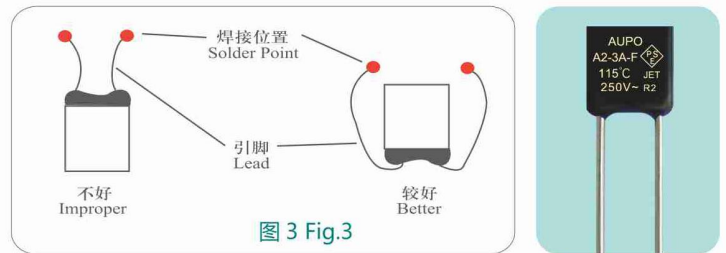

图3 Fig.3
- 尽可能利用长一些的引脚, 长一些的引脚允许较长的焊接时间及减少过热的可能性。(见图 3) 为如何在较小的位置保留长一些的引脚的例子。在引脚较短的情况下, 在焊接时要用尖嘴钳或其它工具夹在引脚上焊点和保险丝体之间位置上以散热, 避免焊接热传入温度保险丝内部。同时焊接温度应控制不要过高, 焊接时间尽可能短。
- Using the lead wires as long as possible when soldering, longer leads permit a longer soldering time and reduce the possibility of overheating.Fig.3 is an example of how to keep a longer lead wires when a thermal cutoff is installed in a small space.It is recommend that using a heat sink between the soldering point and sealant to minimized the heat transmission to thermal cutoff.Avoid the soldering temperature is too high and keep the soldering time as short as possible.